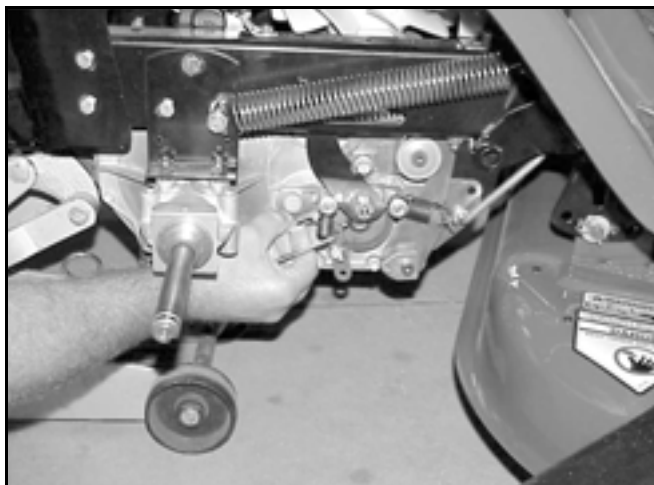

Figure 141
5. Insert a 0.015 in. (.38mm) feeler gauge between the brake disc and brake puck. Tighten the nut until slight resistance is felt on the feeler gauge when sliding it in and out (Figure 141).